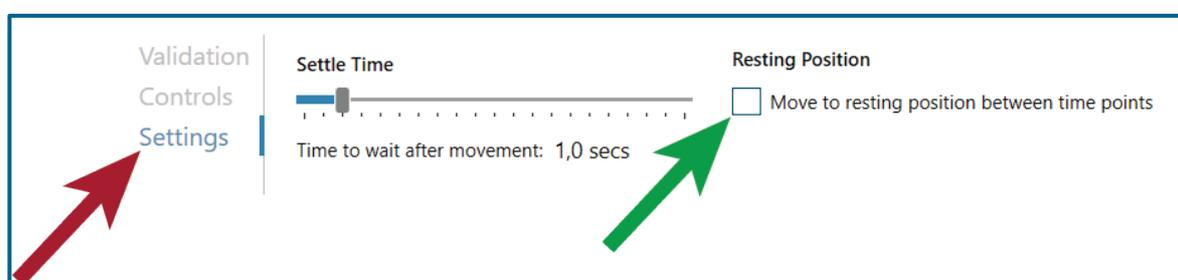

Figure 1. Ensure that the checkbox (indicated by green arrow) *Move to resting position between time points* is deselected.
2. Click Settings (red arrow, fig. 1) and uncheck the box **Move to resting position between time points** (green arrow, fig. 1).